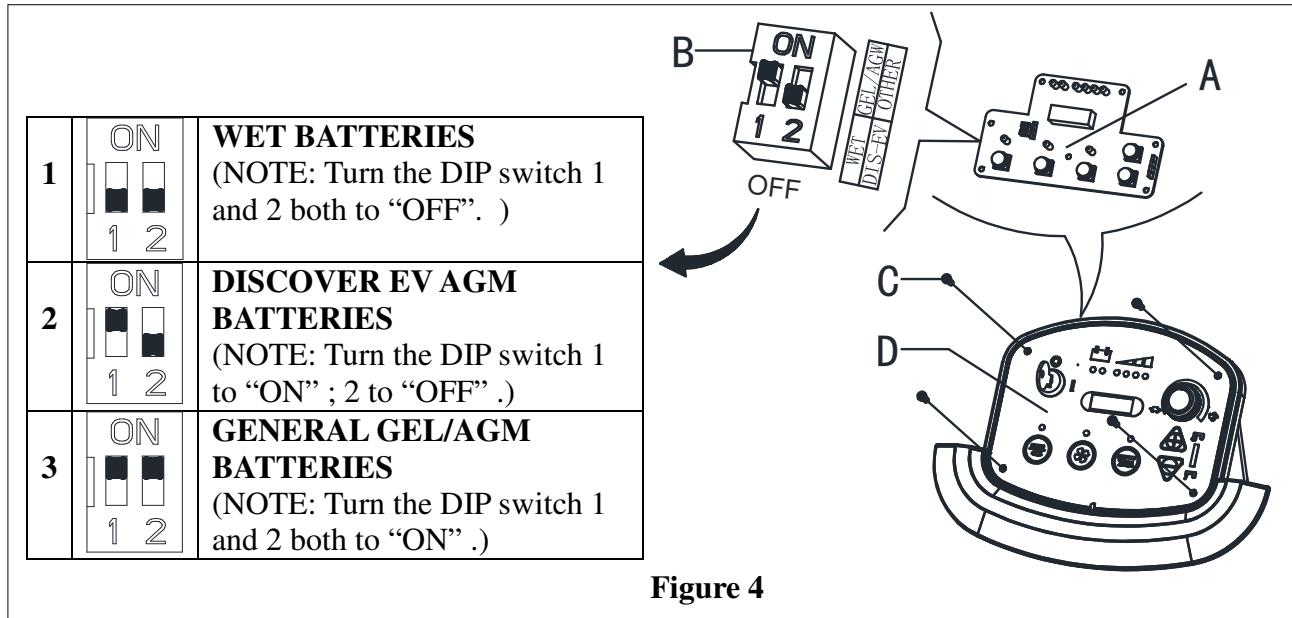

Figure 4
When install new batteries please refer to figure 4 to adjust the DIP switches. Otherwise the batteries may be damaged.
1. Turn the ignition key (35) to "I" and in the very first seconds of machine operation pay attention to the following:
- If the first green warning light (38) is flashing, the machine is set to GEL/AGM.
- If the yellow warning light (37) is flashing, the machine is set to Discover EV AGM.
- If the red warning light (36) is flashing, the machine is set to WET.
4. Remove the screws on control panel (C, Figure 4), then turn over the PCB (A Figure 4)to find the DIP switch (B,Figure4) for setting battery type(WET or Discover EV AGM or GEL/AGM), (Refer to 1 or 2 or 3).